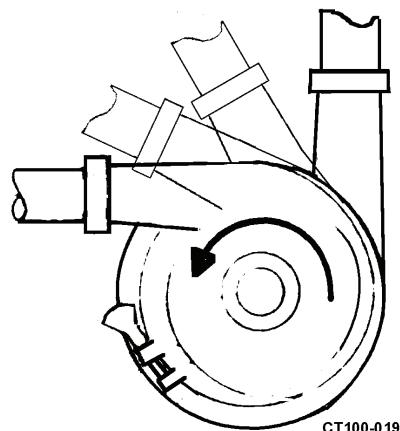

Figure 15 - Recommended Discharge Positions
5. The pump casing may be rotated with the discharge connection pointing in any direction. The best pump performance will be with the outlet up, to the left, or positions in between; these positions ensure a flooded casing and prevent problems due to air in the system. See Figure 15.
3. Check the pump rotation following the electrical installation. Correct rotation is counter-clockwise when facing the pump inlet connection. See Figure 15 and Figure 19.